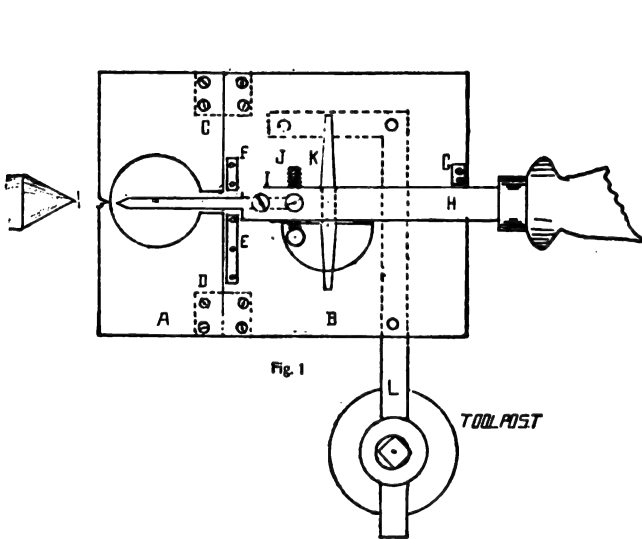

Fig. 1
help to hold the ball firmly in position. Now the tool rest (Fig. 1) is clamped in the tool post by an L-shaped piece of stock (L), riveted to the bottom, just high enough to allow the tool, when resting on the support, to come to the center line of the ball. The tool rest is made of two pieces of sheet metal, A and B, which are hinged together on the line CD, allowing A, which is only used as a gauge for setting the tool to be folded down. E, F, and G are guides for the tool holder, the former two also serving as stops. The tool holder, H, is made of $\frac{3}{8}$ in. square stock, having a $\frac{1}{8}$ in. hole in the end to insert the tools, which are held by means of a set-screw, I. Back of this is the guide screw, J, a piece of 3-16 in. stock is fastened to the end just long enough to reach down into the semi-circular aperture cut into B. K is a crosspiece fastened to the bottom of H to insure a wide bearing on the tool rest. To adjust the tool rest in position we measure the distance between the aperture cut in A and the line C-D, say $\frac{1}{4}$ in. in this
holder in such manner that when the tool-holder is up against the stops E-F-G the point of the drill will be 1-16 in. away from the edge of the hole (Fig. 1). Turning the gauge plate down the carriage is again moved up to the stop and locked there, the ball having been previously centered, we now take the first cut with the tool up to the stop. The chips may be removed by blowing into the hole with a blowpipe. Back up the carriage again and turn up the gauge plate and insert the second tool and turn the guide screw J to such position that both cutting edges of the tool will be 1-16 in. away from the edge of the hole in the gauge at either end. Once more the gauge is folded down, the carriage moved up to the stop and we take the second cut. In each of the subsequent cuts another tool must be inserted, shaped to fit that part of the circle to be cut away, and the guide screw J must be adjusted to the length of the cut.—Contributed by Wm. Lachmich, Chicago.